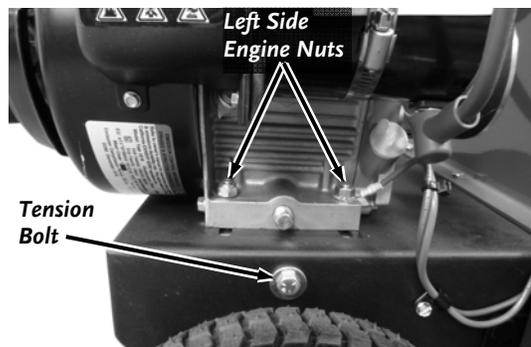

Figure 16
3. Loosen the two left side Engine Mount Locknuts using a 1/2" Wrench (**Figure 16**).
5. Adjust the Tension Bolt using a 1/2" Wrench (**Figure 16**) until the belt is at the correct tension as describe in Step 2.